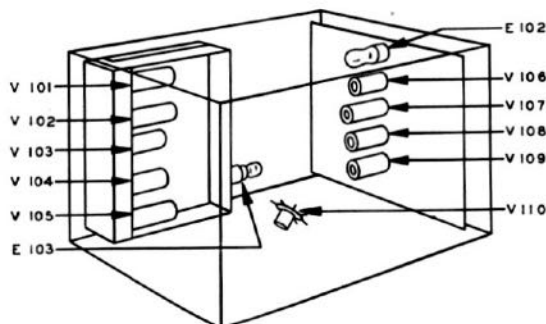

Figure 5-1. RF Signal Generator SG-45A/URM-26, Tube Locations
b. **TUBE REPLACEMENT:** The locations of all tubes in RF Signal Generator SG-45A/URM-26 are shown in figure 5-1.